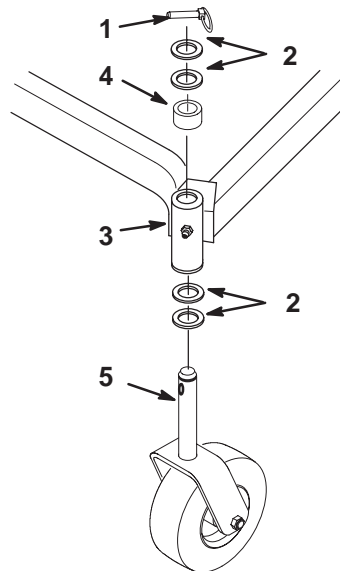

Figure 29
2. Remove the retaining ring, thrust washer(s) and spacer from the top of the caster wheel fork (Fig. 29).
6. Inspect the caster wheel fork for wear and replace if necessary (Fig. 29).
7. Slide the caster wheel fork through the bushings in the mounting tube. Replace the spacer and thrust washer(s) onto the fork and secure with the locking pin (Fig 29).